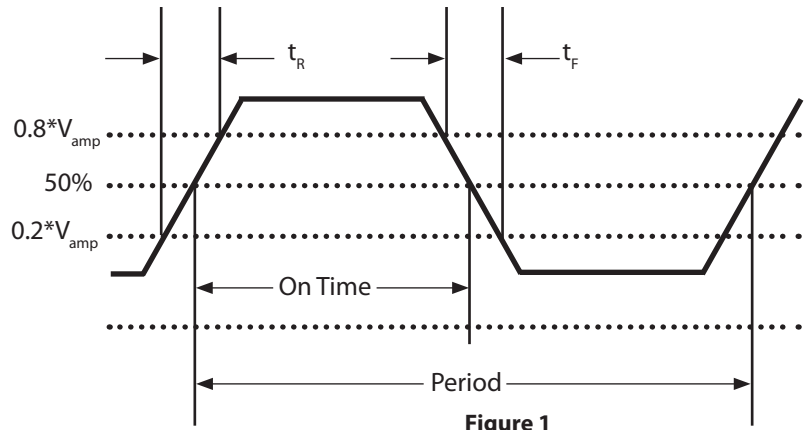
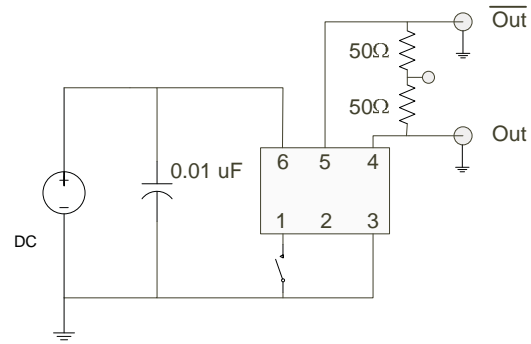

Figure 1
Figure 2
3. Figure 1 defines these parameters and Figure 2 defines the test circuit.